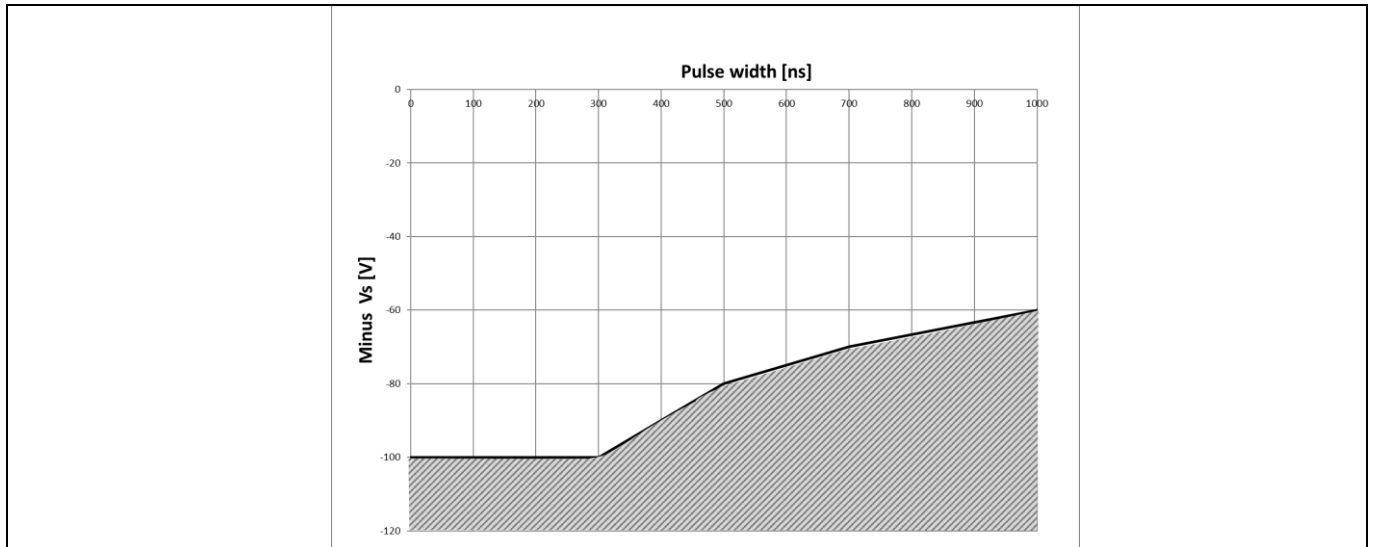

Figure 22 Negative VS transient SOA for 2ED2109 (4) S06F (J) @ VBS=15 V
Infineon's HVICs have been designed for the robustness required in many of today's demanding applications. An indication of the 2ED2109 (4) S06F (J)'s robustness can be seen in Figure 22, where the 2ED2109 (4) S06F (J)'s Safe Operating Area is shown at $V_{BS}=15V$ based on repetitive negative V_S spikes. A negative V_S transient voltage falling in the grey area (outside SOA) may lead to IC permanent damage; viceversa unwanted functional anomalies or permanent damage to the IC do not appear if negative V_S transients fall inside the SOA.